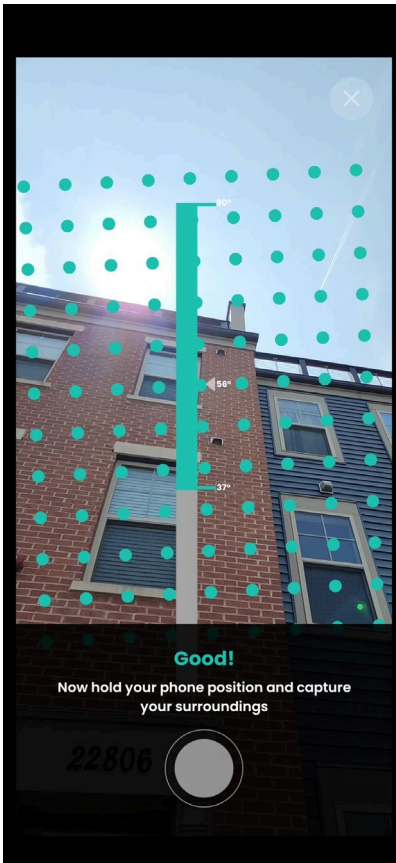

Figure 79: Site survey capture button
6. Once your phone is held at the correct angle, a circular grey capture button will appear at the bottom of the screen, as shown in Figure 79. Tap the button to begin capturing data.